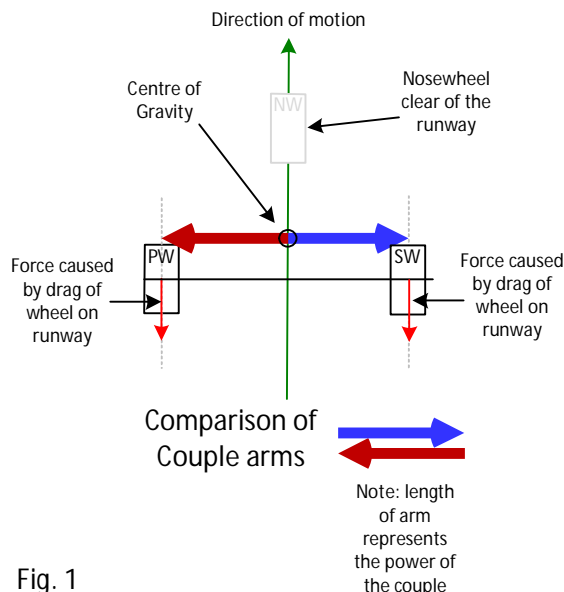

Fig. 1
- Assuming the same drag applies to each wheel, when the aircraft is pointing in the same direction as it is travelling the couples are equal (red and blue couple arms are the same length) and no yaw will be caused by this interaction. This makes a nosewheel equipped aircraft easy to control on the runway because it is directionally stable and its forces try to keep its nose aligned with its direction of movement without pilot input. See Fig. 1.